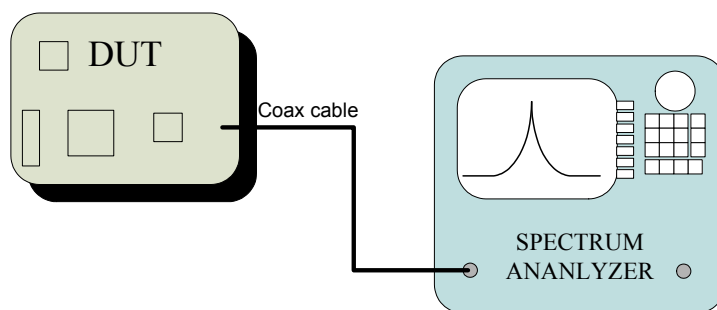

Figure 1. TX carrier hardware test setup
The output power from a radio device in transmit mode is easily measured with a spectrum analyzer in the simple hardware (HW) test setup shown in Figure 1. You should use cables for all output power measurements on a radio device (this type of setup is called a conducted measurement). Using cables is the only way to have a controlled transfer of power from the radio to the measurement equipment. Measuring power accurately over the air requires a fully controlled environment and calibrated antennas, this means you need a calibrated reflection and an echo free (anechoic) chamber.